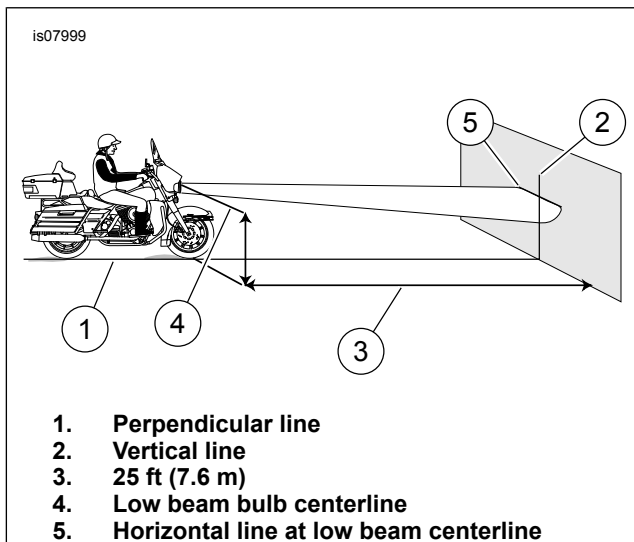

Figure 1. Headlamp Alignment: LED Type
4. See Figure 1. Park the motorcycle on a line (1) perpendicular to the wall.